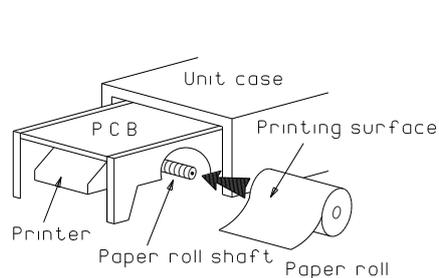

Figure 1
- 6.2.2 Set the paper roll on the shaft (See Figure 1). Since the outer and inner surfaces of the paper are different, set the roll so that the printing surface is the outer.